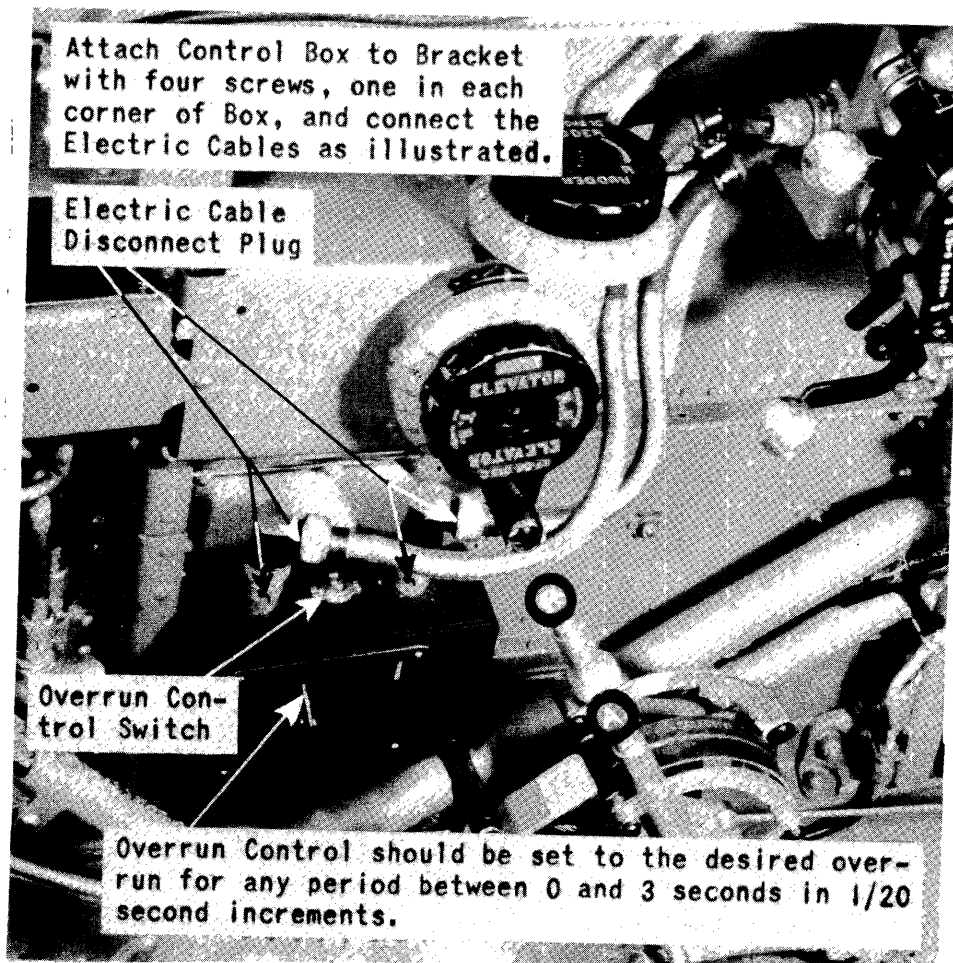

Figure 107 - Overrun Control Box Installed
(4) Install the overrun control box on the bracket on the left side of the cockpit, just forward of station No. 4 bulkhead. Insert the four long bolts through the holes in the four corners of the control box and screw the bolts into the holes in the mounting bracket. (See figure 107.)
(5) Attach the two electric cables by their disconnect plugs to the sockets on top of the control box. Before each flight check the camera installation to be sure that all cables are plugged into place. The control switch for the overrun unit is on the top center of the box.
(6) Test the camera installation by operating the trigger switch for a few short bursts. Set the overrun control pointer at two or three different settings and note whether the camera continues to run after